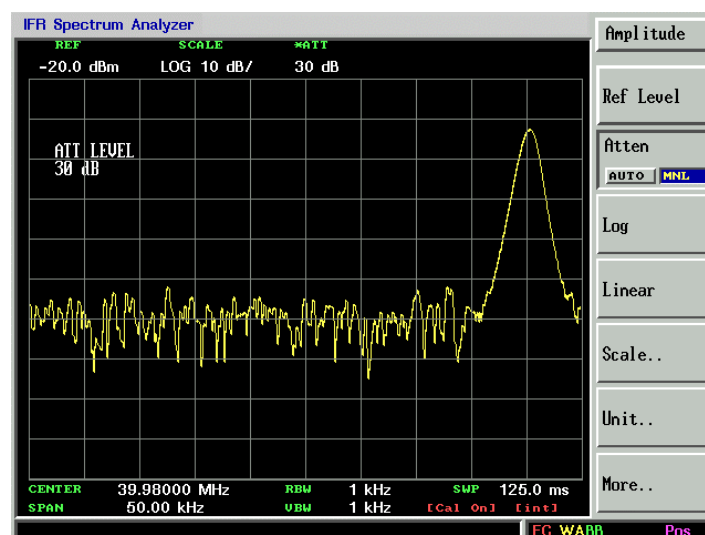

Figure 2-20. Setting the input attenuator
4. Set the reference level to -20 dBm by pressing **AMPL**, *Ref Level, -20 dBm*. See Figure 2-20. Note that if the signal is much higher than shown, adjust the input attenuator. In this example the input attenuation was set to 30dB by pressing *Atten. [MNL], 30dB*.